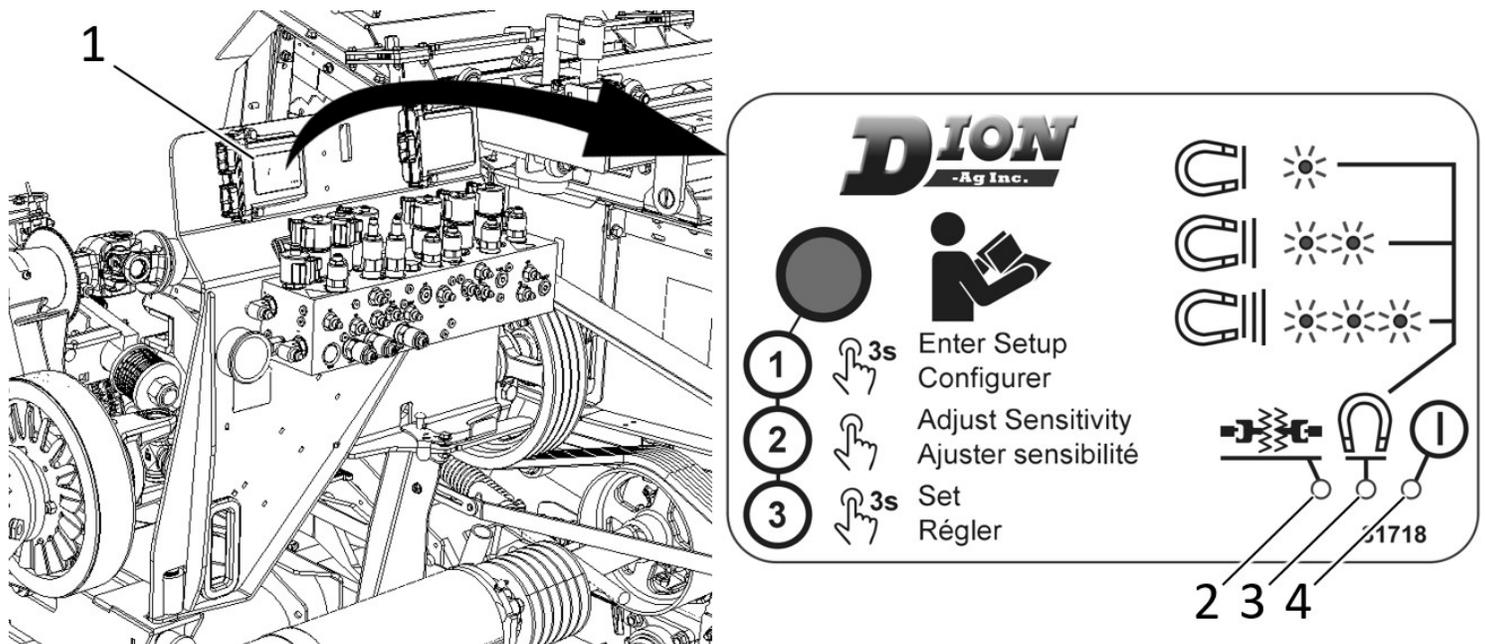

Figure 71 : Controller and indicator lights
CONTROLLER - FIGURE 71
The sensitivity adjustment can be done at any time on the controller itself, located over the hydraulic valve manifold (Figure 71).
The shear bolt (drive failure) detector is run on the harvester controller. The indicator light (item 3 on FIGURE 71) shows the state of the detector.